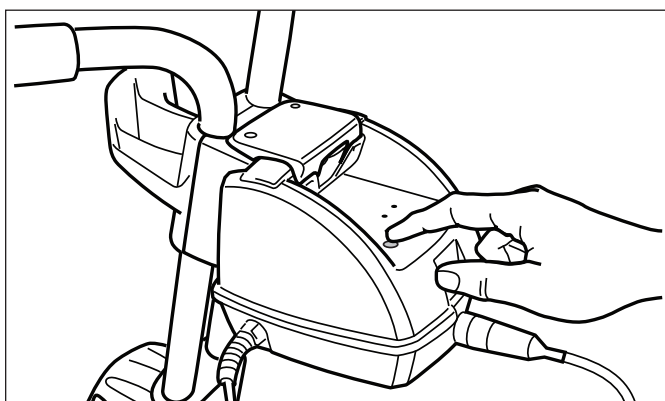

Figure 20. Turn Cleaner Off
4. If you wish to stop the cleaner during a cleaning cycle, press the OFF button. Refer to Figure 20.
5. If you wish to stop the cleaner during a cleaning cycle, press the "Power" button. Refer to Figure 20.